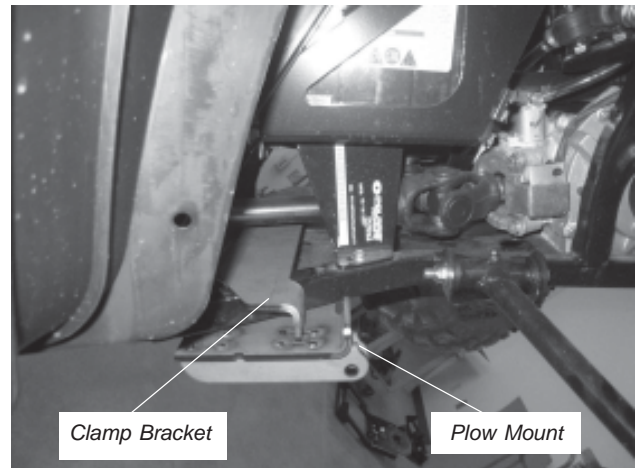

Figure 5
5. Place clamp bracket (A2) over frame, behind tabs of plow mounting bracket (A1), see Figure 5.